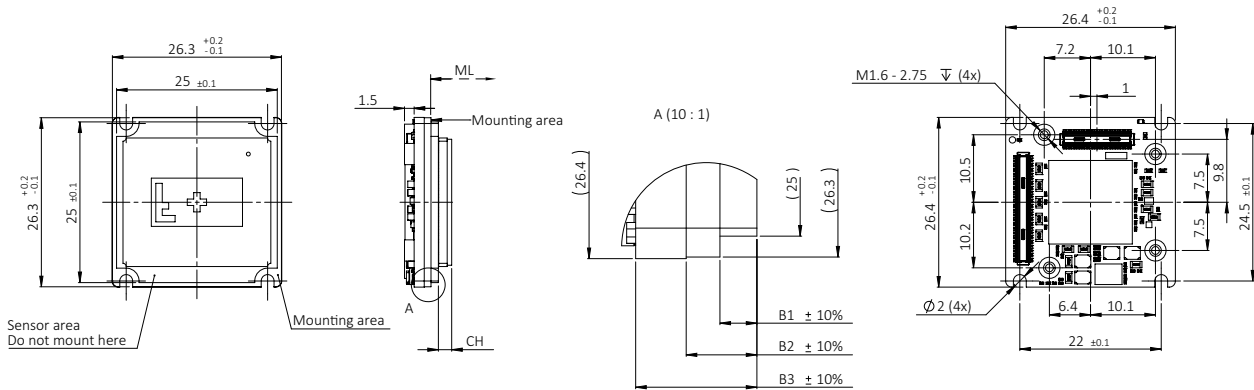

Figure 42: Alvium G1 BL No Mount dimensions
Dimensions that are common between different models are shown in Figure 42, model specific dimensions are listed in Table 69. **Mechanical length (ML)** defines the mechanical distance from the mounting area to the lens mount front flange, without optical filter. **Components height (CH)** relates to the electronic components with maximum height, sometimes the sensor.